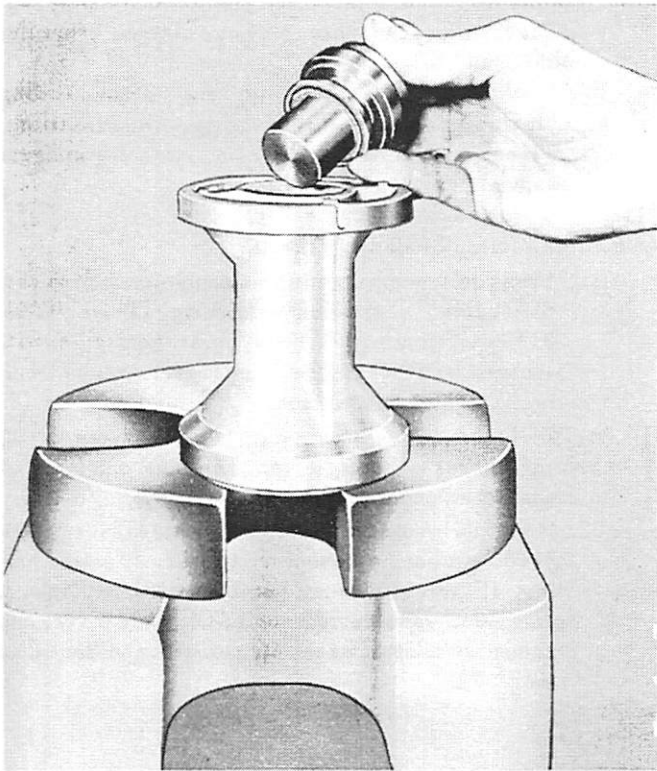

Figure 14 Installing Oil Seals in Carrier
2. Press oil seals in with Oil Seal Driver (C-91-31108) to seat on shoulder in front of roller bearing. (Figure 14) Seat first one with lip inward, using deep shouldered end of Oil Seal Driver, and second with lip of seal out, using opposite end of tool.